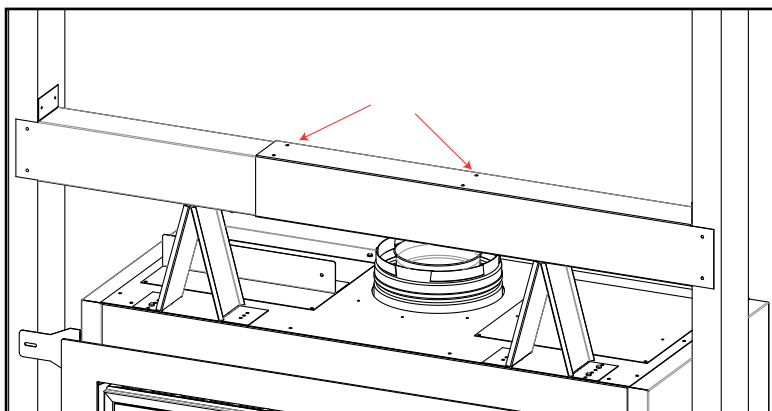

Figure 18: Steel Stud Attachment
- Using the provided sheetmetal screws, attach the two steel stud pieces together using the labeled holes in Figure 18. This should be done on the top and bottom of the steel stud to ensure its rigidity.